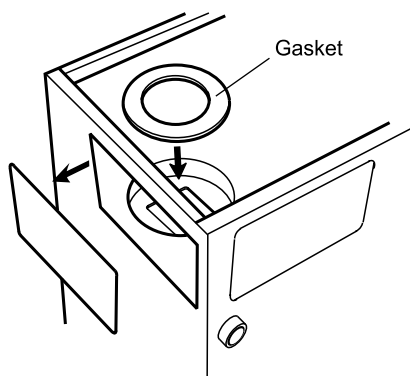

Fig. 18
- 3 Place the circular fibre gasket into the boiler flue spigot. See Fig. 18.